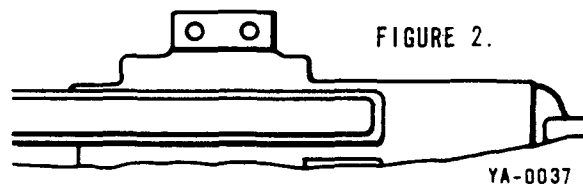

FIGURE 2.
This type of suspension, see Figure 2, requires that the hoist be rigidly supported between two (2) suspension members or brackets spaced far enough apart and properly drilled to accommodate the hoist frame lugs.